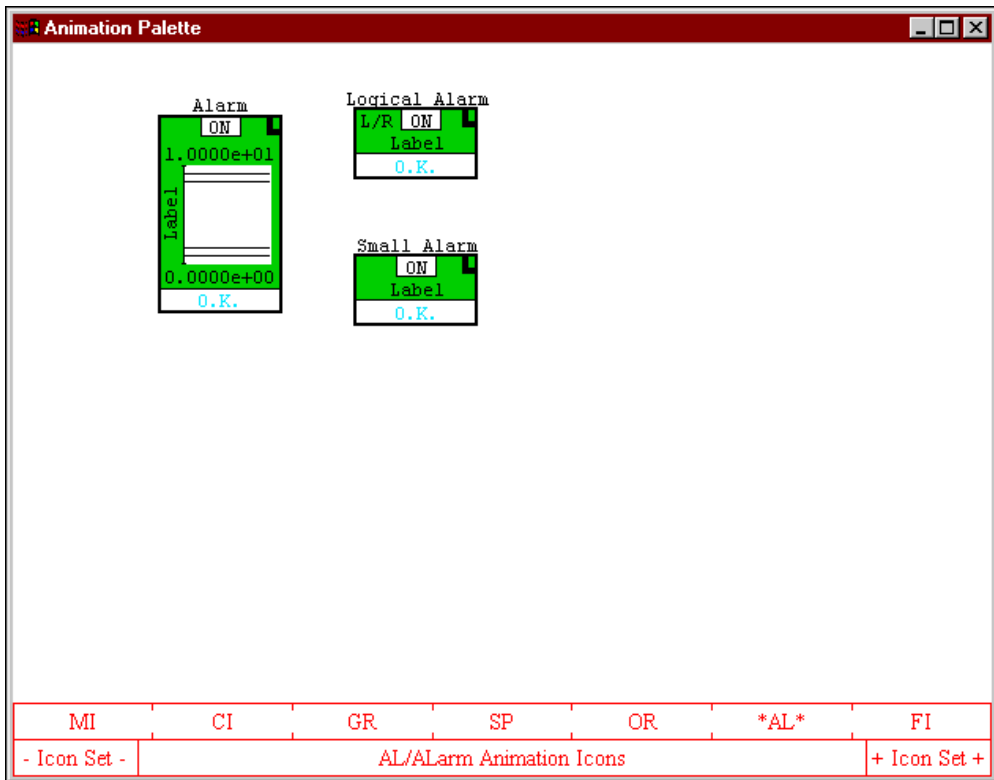

Figure 2-11. Alarm Icons (AL Palette)
- **Alarm Icons**—Alarms, as shown in Figure 2-11, call attention to events that may require operator intervention.